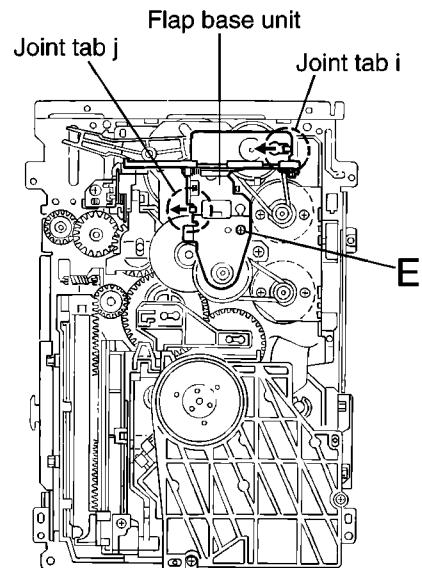

Fig.13
■Removing the flap base unit and the gear base unit (See Fig.13 and 14)
- Prior to performing the following procedures, remove the servo control board, the top cover, the tray unit, the side unit (L) and the side unit (R).